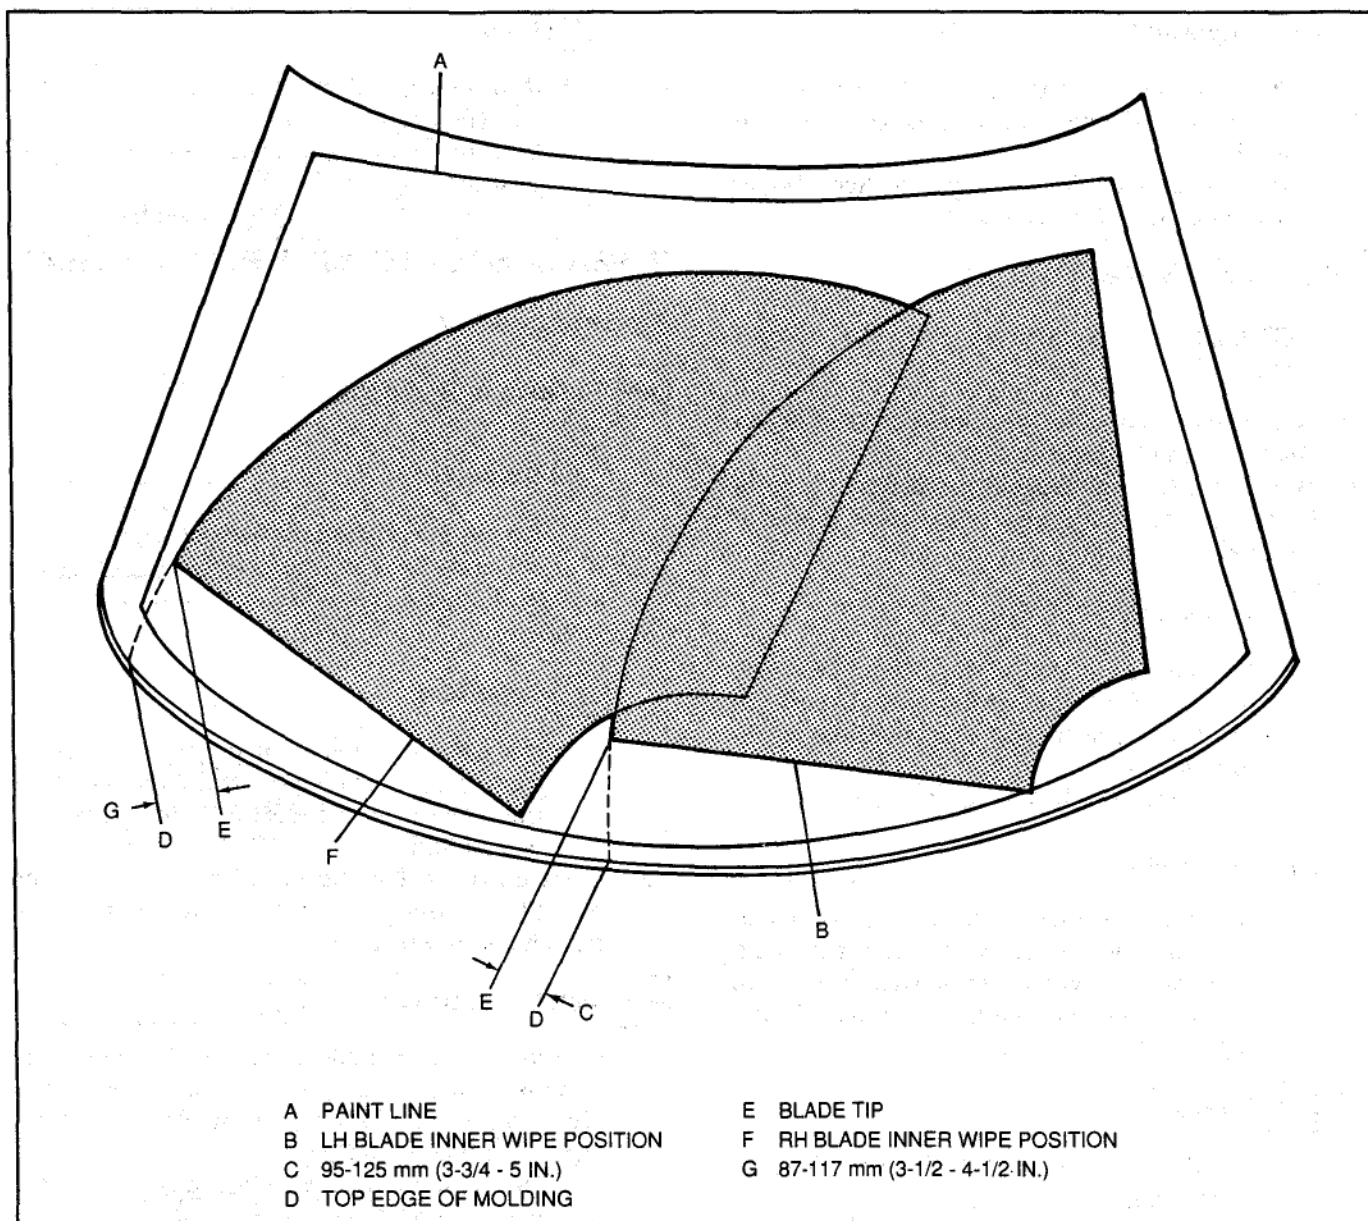

Figure 11 – Wipe Pattern and Inner Wipe Positions
1. Operate wipers at lowest DELAY setting, then shut off wipers at inner wipe (end of sweep) position. At tip of blade assembly, mark windshield to aid at installation. See Figure 11 for wipe pattern and inner wipe positions.
2. Wiper arm (6) on linkage drive shaft, with tip of blade assembly aligned with mark made at removal.
- If wipers could not be stopped at inner wipe position for wiper arm removal, position blade tip(s) according to dimensions given in Figure 11.
- Run wipers and check for proper wipe pattern (Figure 11).
Figures 11 and 16
A correctly operating windshield wiper/washer system has a spray pattern that cleans 75% of the wipe pattern (Figure 11) within ten wiper cycles.